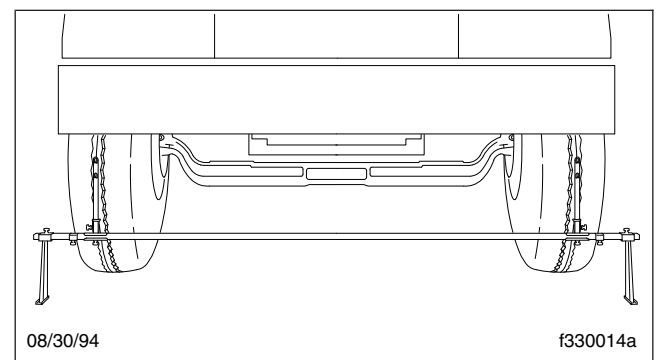
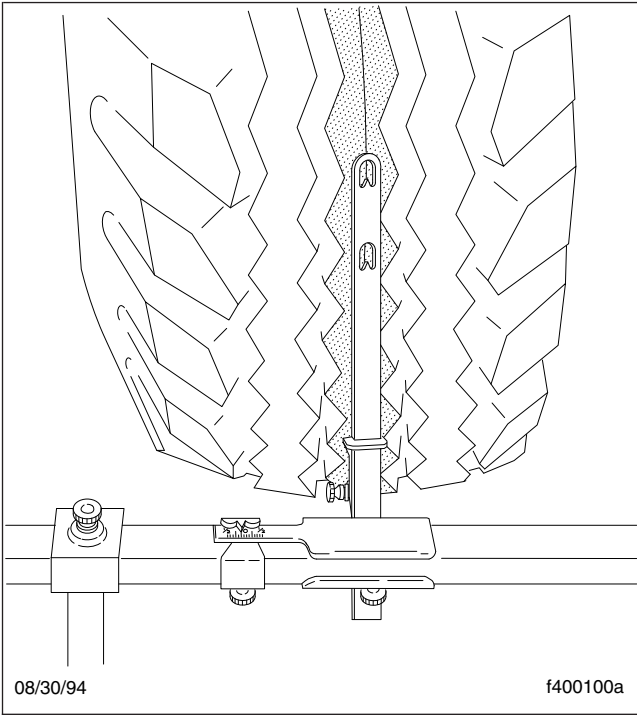

Fig. 7, Trammel Bar Positioning
Fig. 8, Setting Trammel Bar Pointers
7. Place the trammel bar at the front of the tires (see Fig. 7) and adjust the scale end so that the pointers line up with the scribe lines. See Fig. 8.